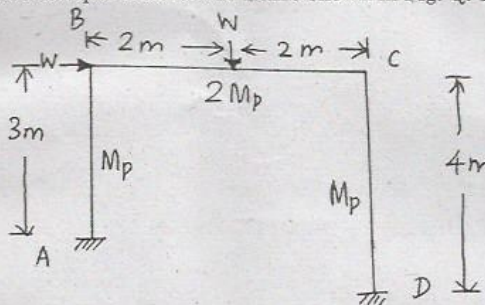

Fig. Q. 16(a)
16. (a) Derive the collapse load for the frame shown in Fig. Q. 16(a).